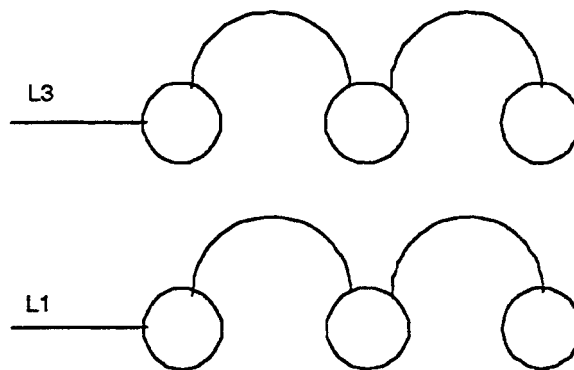

FIGURE 2.
Step 4. Rewire the element connections according to Figure 2. for single phase. Be sure to inspect the power supply and the wiring diagram on the unit to verify the wiring is correct.